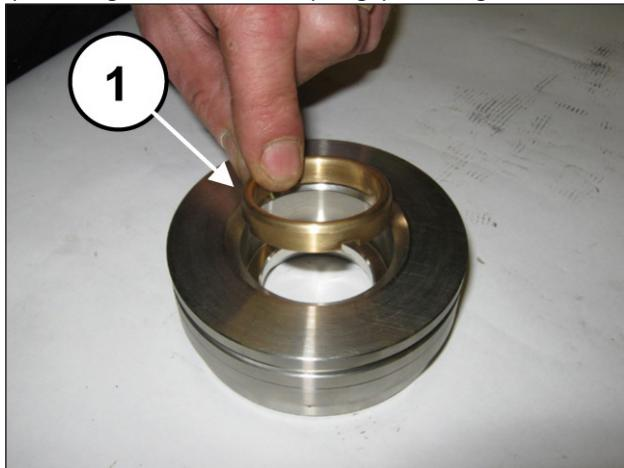
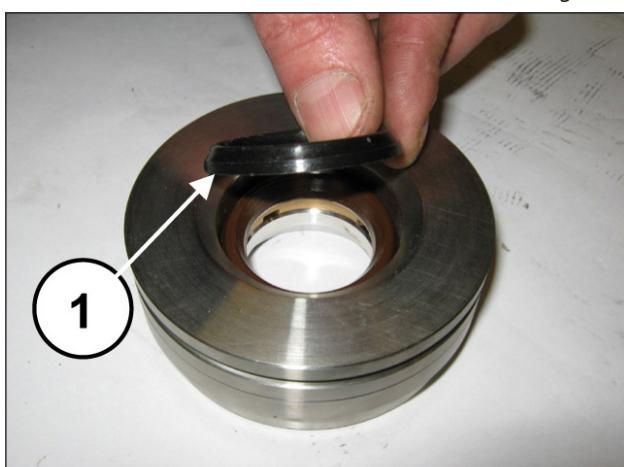

Fig. 176
Fig. 177
Install the head ring (pos. ①, Fig. 176), the high pressure seal (pos. ①, Fig. 177) and the restop ring (pos. ①, Fig. 178).